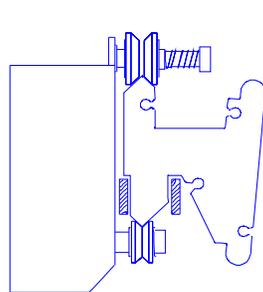

FIGURE 1
Step 5: Remove the (3) allen screws holding the y axis head cover and remove the cover (see figure 1).
Step 5: Remove the (3) allen screws holding the y axis head cover and remove the cover (see figure 1). **Step 6:**